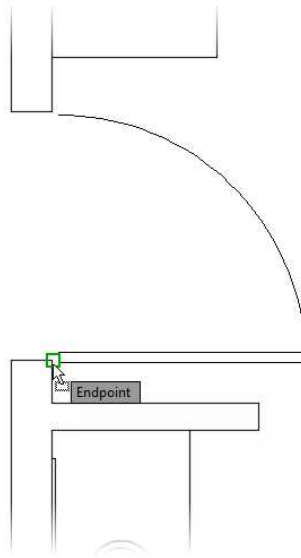

FIGURE 7.56: Zoomed in to the back door area, dragging the A-DOOR-36IN block into Drawing# from DesignCenter
4. Zoom in to the back door area of the drawing (see Figure 7.56), and verify that the Endpoint osnap is running.
As the cursor comes onto the drawing, the A-DOOR-36IN block appears. Use the Endpoint osnap to locate the block at the opening, as you did earlier in this chapter (see Figure 7.56).